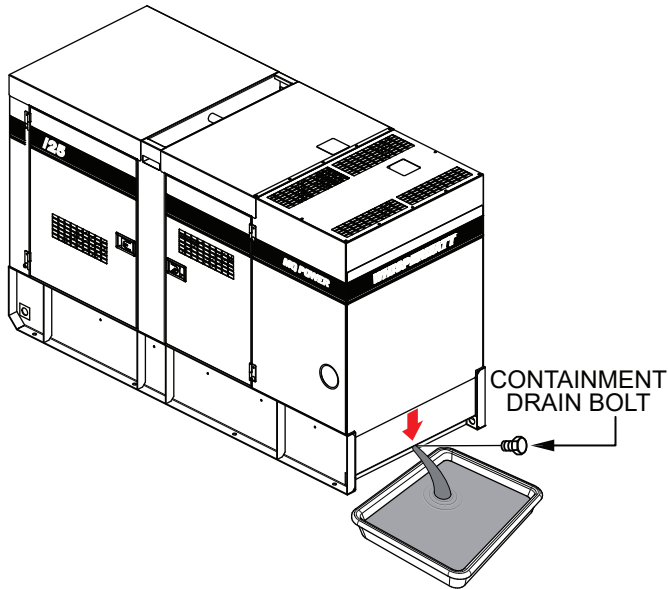

Figure 72. Draining The Containment Tank
2. If the tank becomes full with fluids, remove the drain bolt (Figure 72), then allow the fluids to drain into a suitable container.